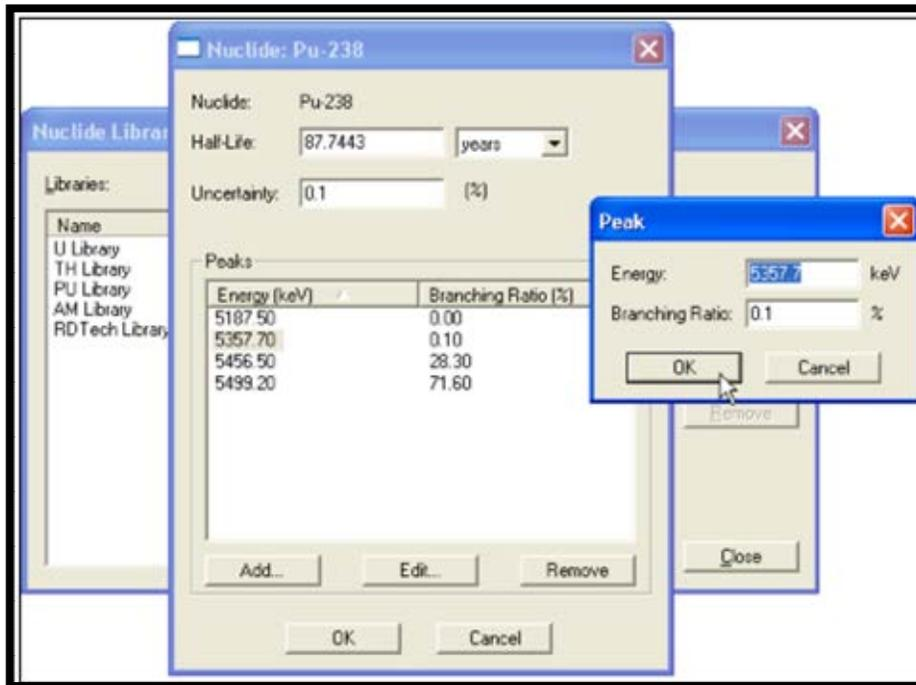

Figure 59. Add Peak
- 4) To view, edit, add, or delete peaks for a particular nuclide, click the nuclide then select the appropriate button. The user may also add/edit the energy and branching ratio of a specific peak. Click the peak then the appropriate button, make the changes, and click **OK** (Figure 59).